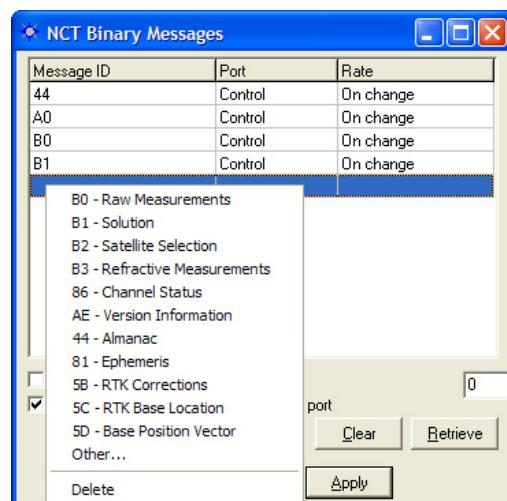

Figure 87: NCT Binary Message ID Menu
- ✓ Right-click in a blank *Message ID* cell. A menu opens with a list of commonly used messages (see Figure 87).
This message must be scheduled for output to view data. If not scheduled, select *Receiver > Messages > NCT output* from the menu bar. The *NCT Binary Messages* window opens. Add this message to the output list (see Figure 87).
This message must be scheduled for output to view data. If not scheduled, select *Receiver > Messages > NCT output* from the menu bar. The *NCT Binary* Messages window opens. Add this message to the output list (see Figure 87).